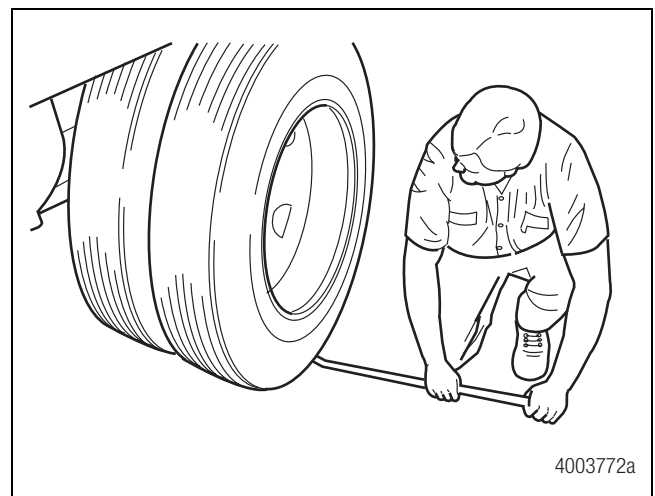

Figure 2.5
4. If the tires are installed, insert a pry bar under the tires. Lift the pry bar and examine the wheel end for movement. Figure 2.5.